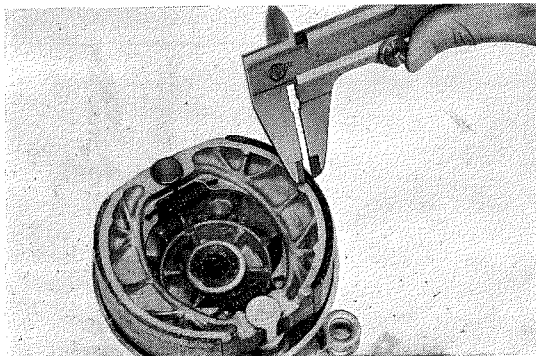

Fig. 58 Brake lining thickness measurement
5. Check wear of brake lining. (Fig. 58)